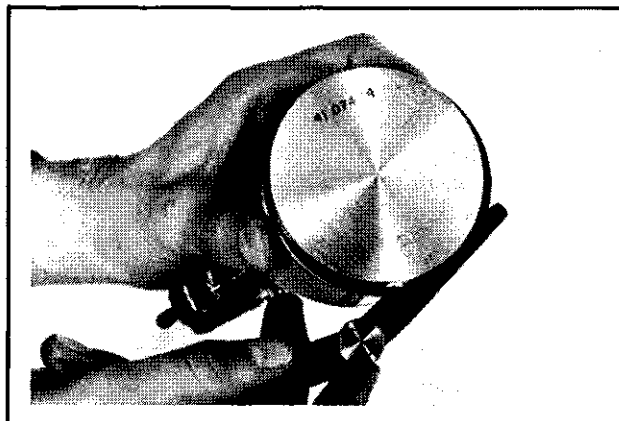

Figure 11-12. Measuring Piston Ring Side Clearance.
4. After installing the new compression (top and middle) rings on piston, check piston-to-ring side clearance. Maximum recommended side clearance is **.006"**. If side clearance is greater than **.006"**, a new piston must be used. Refer to Figure 11-12.